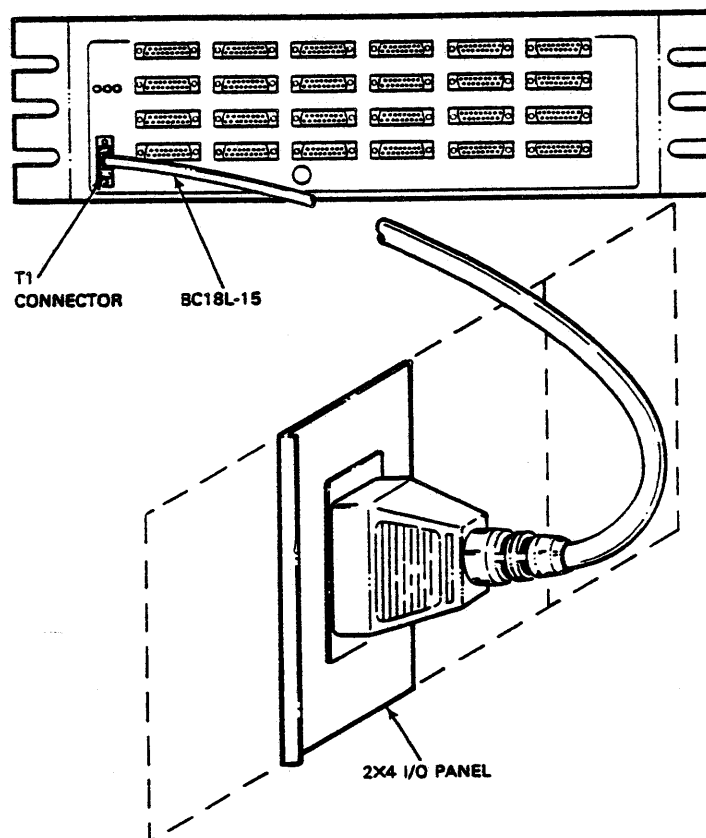

Figure 2-13 T1 Connector Between I/O and H3014
8. After two successful passes of EVDAE, stop the diagnostic, remove the H3027 loopback connector. Connect the Remote T1 cable or BC18L-15 to the T1 input connector on the H3014 (Figure 2-13).